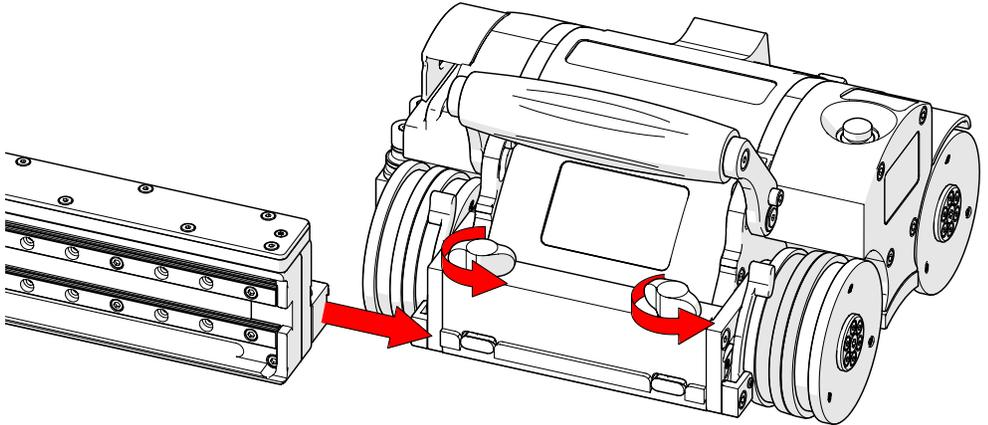

Fig. 33 - Slide onto one swivel mount
1. Loosen the two black wing knobs and slide the Raster Arm HT's mounting rail onto the dovetail jaws of the crawler (*Fig. 33*).